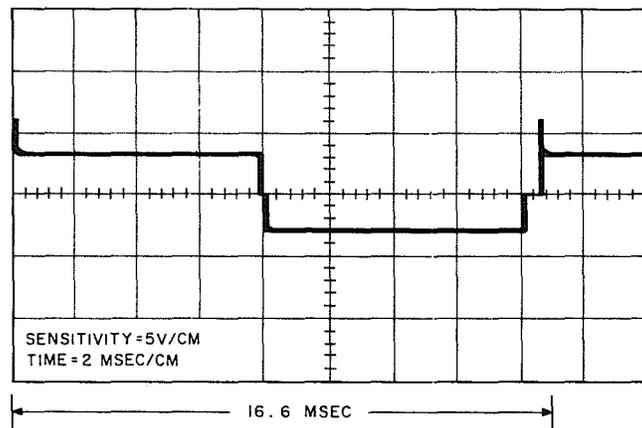
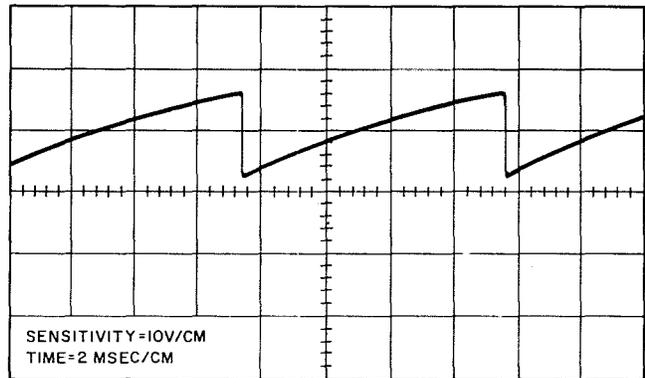
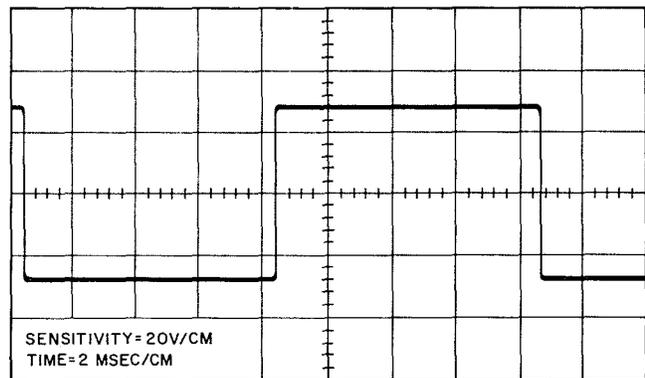

Fig. 1—Gate Waveform
Fig. 2—Master Oscillator Waveform
Fig. 3—Master and Slave Oscillator Drive Waveforms
5.06 Operate INPUT switch (S501) to CHARGE, S101 to ON, and S102 to OFF. Using the KS-14510 meter, check for 30 ± 1 VDC between TP104 (+) and TP103 (-) and 152VDC nominal (battery terminal voltage) between TP102 (+) and TP103 (-). If TP104-TP103 reads zero, check fuses F101, F102, and F103. If the fuses are good and TP102-TP103 reads 152VDC, disconnect P201 from the master logic board. If TP104-TP103 now reads 30 ± 1 VDC, check for possible shorts in the master logic board (Q202, Q203) and/or slave logic board (Q402, Q403). If the voltage between TP104-TP103 is still low or zero, check the voltage across CR101 and CR102 (15 volts across each). Check C102 for a short. Reconnect P201 to the master logic board if the power supply board is working satisfactorily. Using the oscilloscope, check the waveform between TP501-TP507 and TP508-TP507. If presentation is not similar to Fig. 1, the trouble is most likely in the master logic board, or a shorted gate to cathode in CR501 or CR502. Check the waveform between TP509-TP510 and TP505-TP510. If presentation is not similar to Fig. 1, the trouble is most likely in the master logic and/or the slave logic boards or a shorted gate to cathode in CR505 or CR506. If the trouble has not been located,
5.07 If the waveform at TP501-TP507, TP508-TP507 was not similar to that shown in Fig. 1, perform the following checks. Using the KS-14510 meter, check the voltage between TP205-TP204. If the voltage is not 30 volts dc, relay S201 is probably faulty. Connect the oscilloscope to TP201-TP204. If the waveform is not as shown in Fig. 2, check Q201. Check that the waveform between TP202-TP204 and TP203-TP204 is similar to Fig. 3. If the waveforms are not similar to that shown in Fig. 3, check Q202 and Q203. If the waveform is still incorrect, replace the master logic circuit pack. If the waveform at TP501-TP507 and TP508-TP507 is now correct, check the waveform at TP509-TP510 and TP505-TP510. If these are not correct, check the waveform between TP402-TP404 and TP403-TP404 for similarity to Fig. 3. If these are correct, check for defective CR409 through CR414 and CR423. If the waveform is not correct, continue checking as in 5.08(a) and/or (b).
(b) **Blown Power Fuse (F501, F502, F526, or F527):** Operate INPUT switch (S501) to CHARGE, switch S101 to ON, and S102 to OFF. Compare all gate waveforms (TP501-TP507, TP508-TP507, TP505-TP510, and TP509-TP510) with Fig. 1. Be sure the waveforms go both positive and negative; there is a slight hesitation at zero when switching from one polarity to the other with the positive portion beginning with a relatively high spike. If the waveform at TP501-TP507 and/or TP508-TP507 is not correct, check that the waveform between TP202-TP204 and TP203-TP204 is similar to Fig. 3. If the waveform is correct, check for a defective CR208 through CR213 or CR222. If the waveform is not correct, check Q201, Q202, and Q203. If the defective component is not found, replace the master logic pack. If the waveform at TP505-TP510 and/or TP509-TP510 is not correct, check that the waveform between TP402-TP404 and TP403-TP404 is similar to Fig. 3. If the waveform is correct, check for a defective CR409 through CR414 or CR423. If the defective component is not found, replace the slave logic circuit pack. If the waveform is not correct, check as given in 5.08(a). If one or more of fuses F501, F502, F526, or F527 continues to blow when the inverter is turned ON and all waveforms are correct, the problem could be an SCR breaking down at high voltage. If F501 or F526 blows, high-voltage breakdown could be occurring in CR501 and/or CR502. If F502 or F527 blows, high-voltage breakdown could be occurring in CR505 and/or CR506.